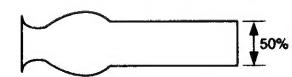

Fig.4-3-4
- ① Playback the alignment tape (NTSC: VSJ-1001, PAL: VHJ-0052). Press the tracking (-) button, and check whether, when the envelope waveform has reached 50% of its maximum, the front half of the envelope waveform is flat. If not, fine-tune the S guide roller as follows.
- a. If the front half of the envelope waveform is as shown in Fig.4-3-4 (a), this means that you have pressed the S guide roller too far. Therefore, loosen it slightly, and when it is in the state shown in Fig.4-3-4 (b), tighten it again, stopping when the envelope waveform is flat.
- b. If the front half of the envelope waveform is as shown in Fig.4-3-4 (b), this means you have not pressed the S guide roller far enough. Therefore, tighten it slightly, stopping when the envelope waveform becomes flat.
- c. If the front half of the envelope waveform is as shown in Fig.4-3-4 (c), it may happen that when you tighten the S guide roller, the wrapper waveform does not disappear, but sinks into the flat part, as shown in Fig.4-3-4 (d). If this happens, the status shown in Fig.4-3-4 (c) is normal, so loosen the S guide roller, then tighten it again until the envelope waveform is as shown in Fig.4-3-4 (c).
- ② Check that at the tracking centre, the output of the front half of the envelope waveform is not less than 80% of the maximum.
- ③ Rotate the S guide roller 20° counterclockwise.
- ① Playback the alignment tape (NTSC: VSJ-1001, PAL: VHJ-0052). Press the tracking (-) button and check whether, when the envelope waveform is 50% of maximum, the back half of the envelope waveform is flat. If not, loosen the T guide roller slightly, then tighten it gradually until the back half of the envelope waveform becomes flat.
- ② Check that the output for the back half of the envelope waveform is at its maximum at the tracking centre.